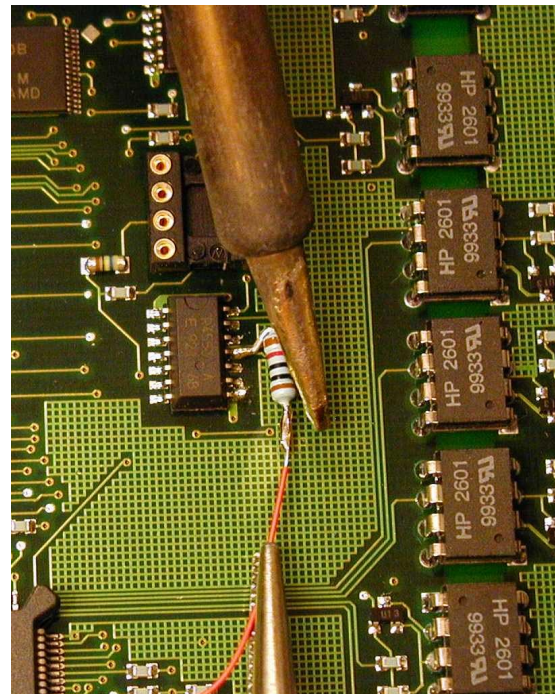

**Figure 2- Pull-up Resistor Location**
4. Examine the area shown in **Figure 2**, on the PCB CIO. If there is a pull-up resistor present, remove lithium battery and continue with Step 5. If there is no pull-up resistor, no further action is necessary. Replace battery as necessary according to documented replacement interval, if necessary.
8. Locate the CIO PCB serial number label. Change revision of PCB from 3.0 to 4.0 with permanent pen. (See Figure 2)